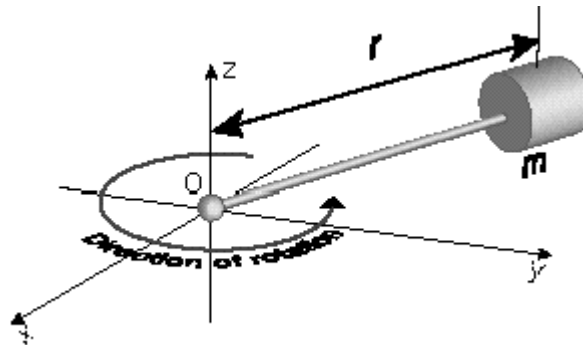
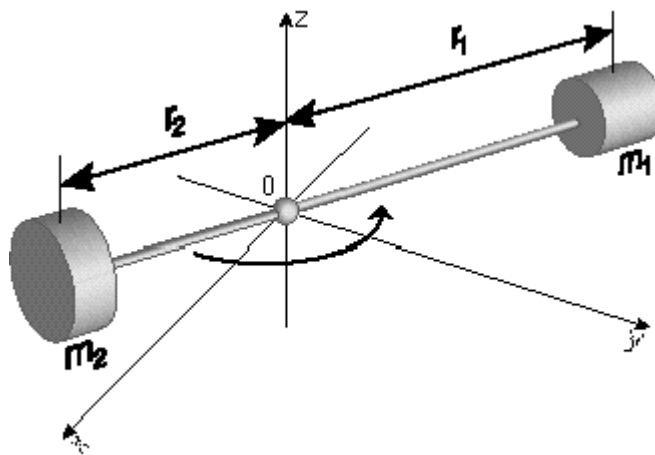

Figure 7.1: One point mass  $m$  on a weightless rod of radius  $r$  ( $I = mr^2$ ).
Figure 7.2: Two point masses on a weightless rod ( $I = m_1r_1^2 + m_2r_2^2$ ).
To illustrate, we will calculate the moment of inertia for a mass of 2 kg at the end of a massless rod that is 2 m in length (Fig. 7.1 above):
**Note:** The moment of inertia of a complicated object is found by adding up the moments of each individual piece (Figure 7.2 above is the sum of two Figure 7.1 components).